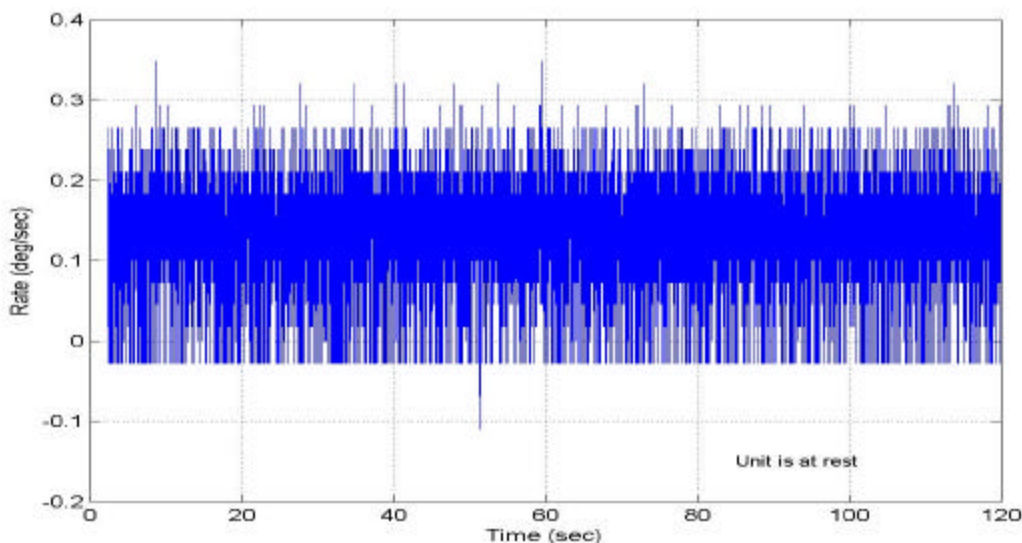

Figure 1. VG700CA rate output
The Crossbow Technology 700 series vertical gyros (VG) and inertial measurement units (IMU) have a specification for bias stability at constant temperature. What does bias stability mean? Figure 1 shows a typical output of rate vs. time for a VG700CA unit. Note that the peak-to-peak noise is about 0.38 deg/sec or about 1400 deg/hr. How can we measure a bias of less than 20 deg/hr?
Bias is a long term average of the data. It is meaningless in terms of a single data point. To measure the bias, we must first take a long sequence of data, and find the average value. Clearly, in Fig 1, the bias is about 0.15 deg/sec. Bias stability refers to changes in the bias measurement. For example, what would the bias be if we took data two hours from now? To measure bias stability, we need to measure the bias many times and see how the bias changes over time. Even this leaves some open questions: for how long should we average the data; how many times should we measure the bias to make a valid measurement of the bias stability?